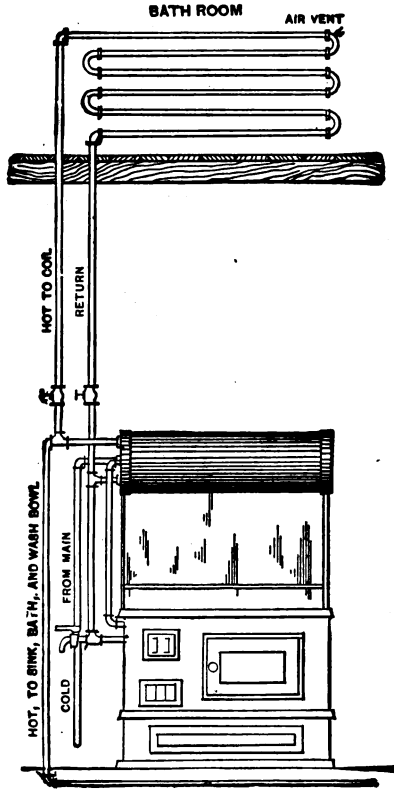
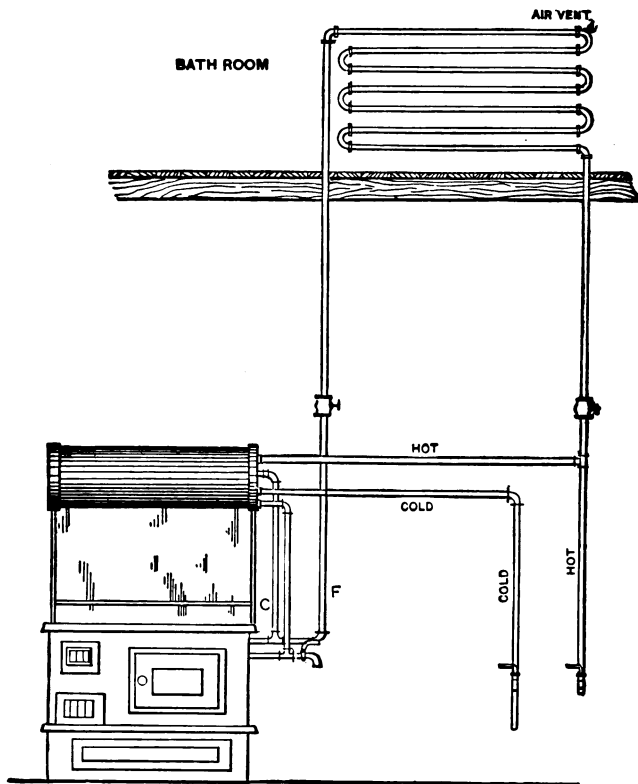

Fig. 1.—First Plan.
Fig. 2.—Second Plan.
from time to time. I have another of these ranges to deliver now in a house where the bathroom cannot be heated from the furnace in the cellar. I therefore thought I could utilize the hot water, which generally runs to waste, in heating this room by means of a coil of pipe supplied from and returning to the boiler and water back of the range. Inclosed you will find a rough sketch, Fig. 1, showing the relative positions of the range, sink, bathtub, &c., also my idea of the proper way of connecting the coil with the boiler—that is, entirely independent from the supply of hot water leading to the other fixtures. The bath-
room is small—about 6 feet 6 inches by 7 feet, with the ceiling 8 feet high. The kitchen is 12 x 14 feet, with 9-foot ceiling. The plumber who is fitting up the bathroom has submitted a plan which I cannot understand (it is shown in the sketch, Fig. 2), and, being almost a novice in this kind of work, I have concluded to refer the matter and the following questions to you, knowing that you are always ready to give assistance when called upon in matters of this kind:
*Answer.*—Figs. 1 and 2 are copies of the sketches inclosed by our correspondent. In reply to his query, we would say: 1. It is quite
practicable to heat a small room from the water back and boiler of a range, and several instances exist where this source of heat is used with satisfaction. 2. The arrangement of the pipes connecting heating coil with water back and boiler of range is correct, as shown in Fig. 1. Here the circulation between the back and boiler is fully maintained and is direct, while the circulation between the boiler and heating coil or radiator is also secured, the descending or cooler column—that is, the return water from the heating coil—being arranged to flow in the same direction as the same column from the boiler to the back. In Fig. 2 the flow pipe, or ascending column, F, is taken directly from the water back to the heating coil, on the horizontal part of which pipe is a branch called a circulating pipe, C, to boiler. When starting the fire, the circulation through pipe F to heating coil will be more rapid than through C to boiler. The water in the boiler will become heated by the return water from heating coil, as well as the partial circulation through pipe C. As the temperature of the water in the boiler increases, the circulation through the heating coil will decrease, and if the temperature of the water in the boiler should become equal to the temperature of the water in the coil, which is not improbable, the circulation in the heating coil will cease. If a valve was placed on the circulating pipe C and closed when the coil was used the circulation would be continuous and the water in the boiler would be slowly heated by the return water from the coil. When hot water is drawn off for domestic purposes, if the pipes are arranged as shown in Fig. 2, the temperature of the heating coil will be immediately reduced, as the hot water in the coil is as liable to be taken off as that in the boiler, whereas in Fig. 1 the liability to withdraw the hot water from the coil does not exist, and the incoming cold water only retards the supply of heat to the coil. The difference between the two plans may be thus summarized: In Fig. 1 the heating of the domestic water supply in the boiler is not interfered with, and the circulation through the heating coil is not liable to be reduced or to cease; whereas in Fig. 2 the heating of the water in the boiler is liable to stop the circulation in the heating coil, and the withdrawal of hot water for domestic purposes and the incoming cold water will tend to cause irregular circulation between back and coil, and back and boiler. Replying to our correspondent's third question, no changes are necessary in Fig. 1 plan to make it work. For the radiating surface a return bend coil may be used of  $1\frac{1}{4}$ -inch pipe. The length of coil may be about